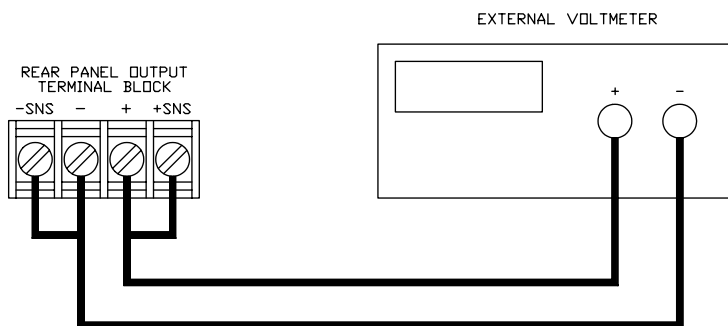

Figure 4.1 Voltage Calibration Setup
1. Set the power supply for calibration as in Figure 4.1.